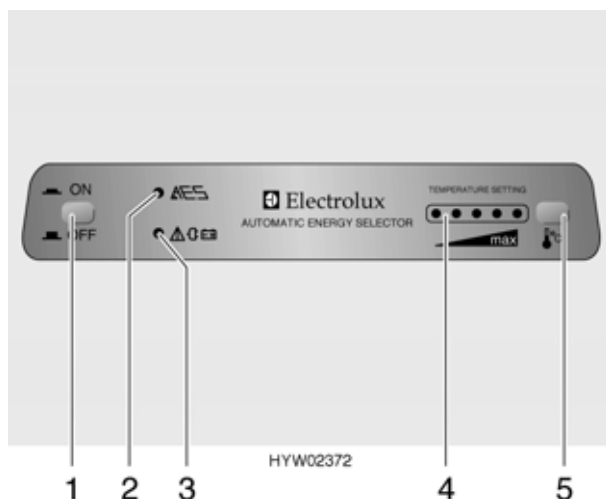

Fig. 133 Operating controls for refrigerator
If the 240 V supply is disconnected and the vehicle's engine is not running the "AES" selects the gas supply. When selecting gas operation the ignition fuse is opened automatically so gas can get into the burner. At the same time the electronic ignition is activated. If the gas flame is extinguished, e. g. by blast of wind, the ignition is activated immediately and re-ignites the gas. When the gas operation is faulty, the indicator lamp (Fig. 133,2) flashes red.
- ▶ Open flames are prohibited at petrol stations. If the stop takes longer than 15 minutes, the refrigerator has to be turned off at the button (Fig. 133,1).
During electric operation the "AES" constantly checks the voltage of the power supply. If the voltage is too low over a longer period of time, the "AES" automatically switches over to gas operation. The indicator lamp (Fig. 133,3) comes on. The "AES" remains in this type of operation until the voltage is back to normal.
When turned on the first time the refrigerator automatically selects the middle thermostat position. This position can be adjusted manually by using the button (Fig. 133,5). The LEDs (Fig. 133,4) show the selected thermostat position. The refrigerating temperature for the three types of energy is set with the button. It takes a few hours till the refrigerator reaches its normal operating temperature. When changing over the operation mode the thermostat setting will be maintained. The refrigerating temperature is retained regardless of the type of power being used.
- Press push button (Fig. 133,1). Green indicator lamp (Fig. 133,2) comes on.
- Adjust refrigerating temperature with the button (Fig. 133,5). The LEDs (Fig. 133,4) show the selected thermostat position.
When the gas operation is faulty, the indicator lamp (Fig. 133,2) flashes red.
- Press push button (Fig. 133,1). Indicator lamp (Fig. 133,2) is no longer illuminated.